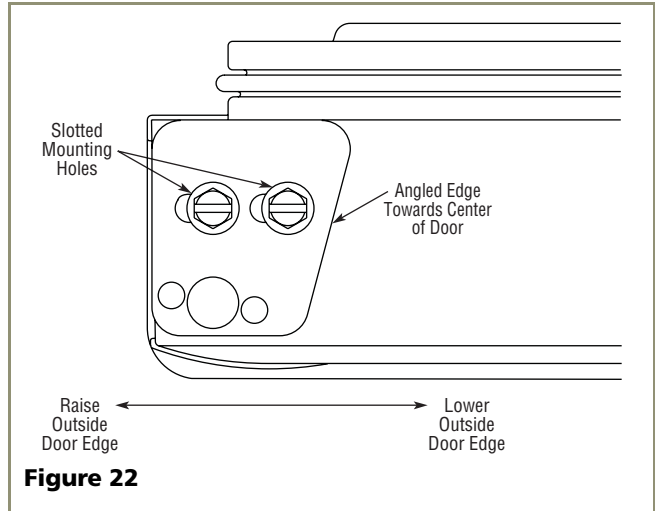

Figure 22
3. See **Figure 22**. If the top far edge of the door needs to move UP, move the hinge plate toward the outside of the door and retighten screws. If the top far edge of the door needs to move DOWN, move the hinge plate toward the inside of the door and retighten screws.